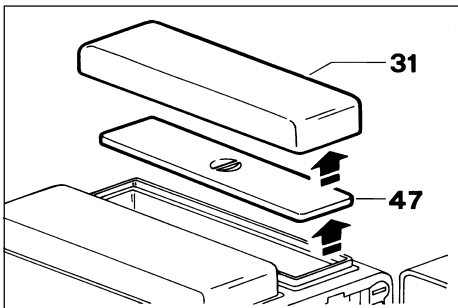

Fig. 24
- Lift the top cover (31) and the hopper cover (47) (Fig. 24) and fill the hopper (1) with coffee beans.